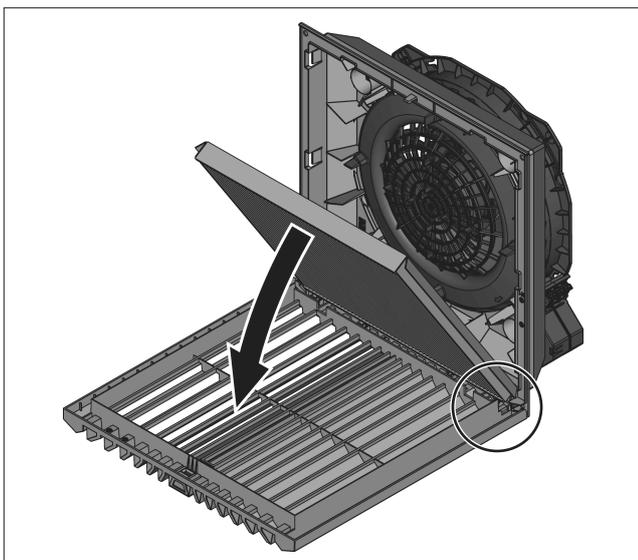

Fig. 19: Installing the IP 54 pleated filter
- Place the new pleated filter in the louvred grille. The "Top" logo indicates the insertion direction (see fig. 19).